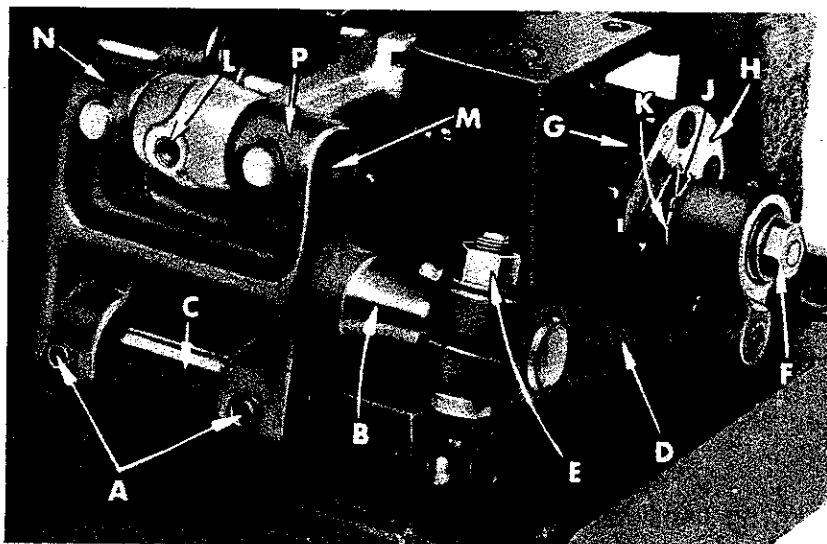

Fig. 11
Right to left adjustment can be made by loosening screws (A, Fig. 11) and slightly move feed rocker (B) on feed rocker shaft (C) as required, then retighten screws. Check to ensure that feed rocker arm (D) does not bind after adjustment.
Forward or rearward centering of feed dog can be accomplished by loosening nut (E, Fig. 11), move feed rocker (B) as required and retighten nut.
Set the stitch to required length. This is accomplished by loosening lock nut (F, Fig. 11) $1/2$ turn, (it has a left hand thread) on the end of the stitch regulating stud and turning stitch adjusting screw (G) located under the left end of the cloth plate in the head of the mainshaft (H), which is marked with "L" and "S". Turning the screw in a clockwise direction shortens the stitch (moves stitch regulating stud toward the "S") and turning it in a counterclockwise direction lengthens the stitch (moves stitch regulator stud toward the "L"). Retighten the lock nut securely. To prevent destructive damage to the feed drive bearing, key screw (J) must engage the "U" shaped key slot in ferrule (K).
The feed rocker assembly may require lubrication and repair after years of operation. This can be accomplished as follows: Loosen nut (E, Fig. 11) and remove nut (F). Remove feed rocker arm (D) from machine by rocking slightly. Loosen screws (A) and remove stop collar on right end of shaft (C). Shaft can now be withdrawn. Loosen Allen screw (L) and remove shaft (M). Now repack bearings.
When packing bearings, parts must be clean and grease should be applied directly from the tube to avoid contamination. Tube of grease can be supplied under part No. 28604 P. Greased bearings are located at (N, P, Fig. 11). If -crease sealed bearings are replaced, they should be pressed in flush with the casting. To assemble, start tapered end of shafts first, twisting slightly when entering the grease seals to prevent damage. Check for proper adjustment of feed dog as described under the "Feed Dog Settings". Also check to see that there is no binding at any point.